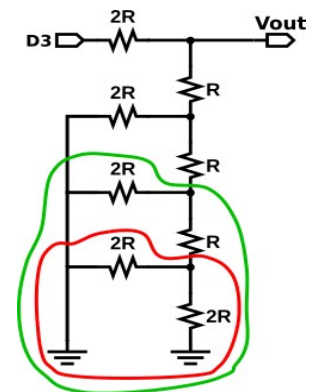

Figure 2: Start by setting D03 to V_{CC} , and the other digital inputs to ground. Analyze the subcircuit in red.
- a) In this case we will start by grounding D0 – D2. This gives us the red circled circuit in Figure 2.
- c) Next with your new circuit, do the same with the part of the circuit in green in Figure 2. Draw the equivalent circuit below.